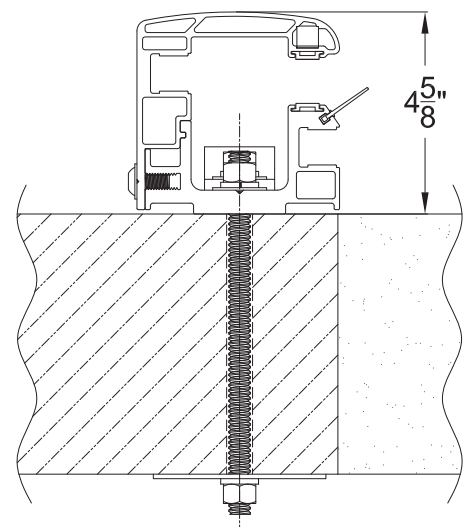

Figure 10: Projection of face frame assembly with cover from wall
9. Note that face frame assemblies with the covers on will project out from wall 4-5/8" when assembled (Figure 10). If floor is sloped away from wall, face frames need to be shimmed so that the bottoms of the installed face frame covers will sit flush with the bottoms of the face frames, and will not interfere with the floor surface.
1. Locate crated header & curtain assembly. The header & curtain assembly is packaged sitting on top of and is attached to a lifting frame (Figure 10). Remove all other packaging but leave assembly attached to the lifting frame